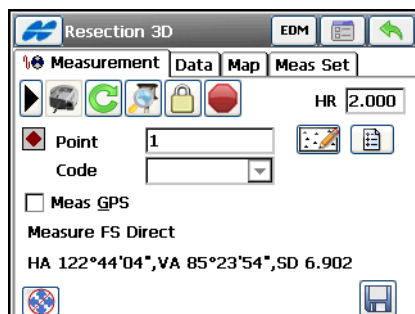

Figure 8-46. Resection in Robotic Mode
4. Clear the *Measure GPS* box and take TS measurements as usual with a robotic total station (Figure 8-46).